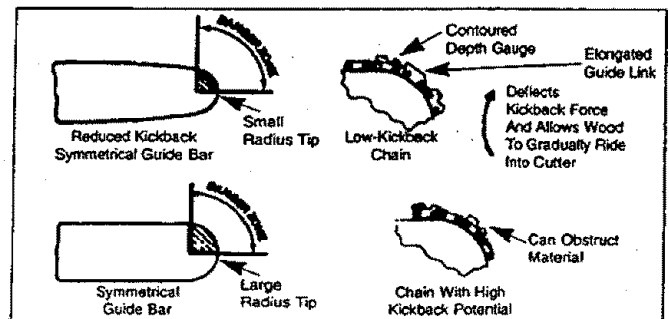

Figure 5
- **Reduced-Kickback Guide Bar**, designed with a small radius tip which reduces the size of the kickback danger zone on the guide bar tip. Figure 5. A Reduced-Kickback Guide Bar is one which has been demonstrated to significantly reduce the number and seriousness of kickbacks when tested in accordance with ANSI B175.1-1991.
- **Low-Kickback Chain**, designed with a contoured depth gauge and guard link which deflect kickback force and allow wood to gradually ride into the cutter. Figure 5. Low-Kickback Chain is chain which has met kickback performance requirements of ANSI B175.1-1991 when tested on a representative sample of chain saws below 3.8 cubic